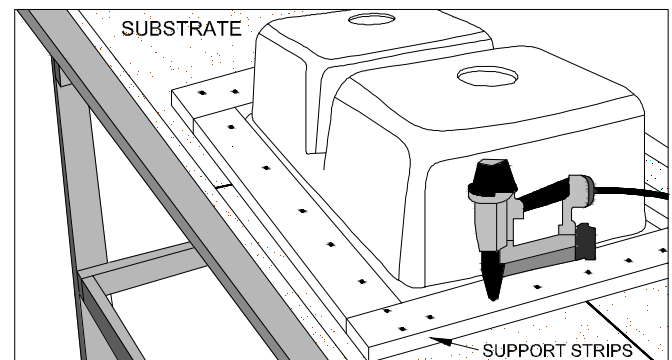

Figure 7D
- Place $\frac{3}{4}$ " thick wood support strips around entire perimeter of sink flange. (FIG. 7D)